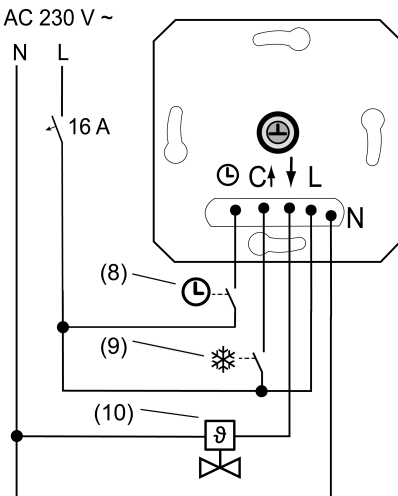

Figure 2: Connection example of the insert
- Connect electrothermal valve drive (10) to insert (1) according to connection diagram (Figure 2). Observe the conductor cross-sections (Figure 3).
- Optionally, connect the ECO operation input Ø via a switching contact of a central clock (8). If 230 V is applied to the input, the setpoint temperature is reduced by 4 °C, exclusively in heating mode.
- Optionally, connect the cooling input **C** via a switching contact of the heating system (9). If 230 V is applied to input C, the cooling mode is active. If 230 V is switched off, the device automatically switches to heating mode. After each switchover, the LED lights up for 10 seconds in the colour of the current operating mode.